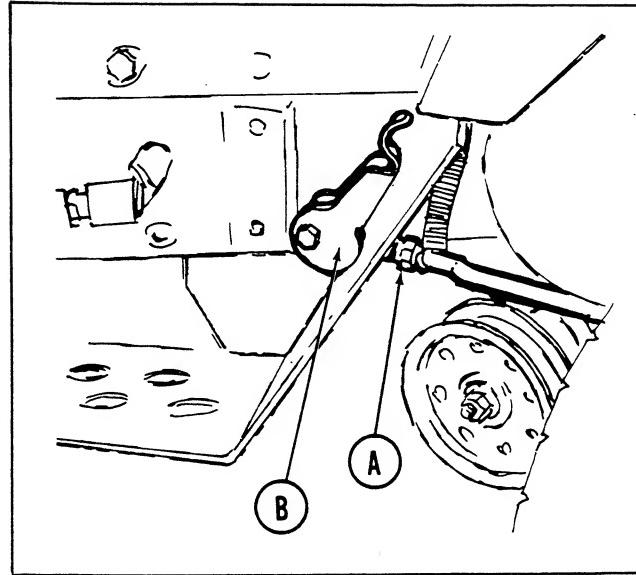

Figure 13. Parking brake adjustment on left side of tractor.
1. See figure 13. NOTE: ALL DIRECTIONS GIVEN FOR ADJUSTING THE PARKING BRAKE, ARE AS IF YOU ARE STANDING AT THE FRONT OF THE TRACTOR LOOKING BACK TOWARD THE PARKING BRAKE. Loosen nut (A) by turning it clockwise.
2. See figure 13. After insuring the tractor is either on a level surface or the wheels are blocked so it will not roll, pull forward on the parkingbrake handle (B) to disengage the parking brake.
3. Rotate parking brake handle (B) clockwise to tighten the parking brake, or counter-clockwise to loosen it. Turn the
handle one complete revolution when making any adjustment. After turning the handle (B) one revolution place it in the engaged position as shown in figure 13, with the handle at approximately in the one o'clock position as you face it from the front of the tractor.
4. After the correct adjustment has been made, use a wrench to tighten nut (A) securely by turning it counter-clockwise.